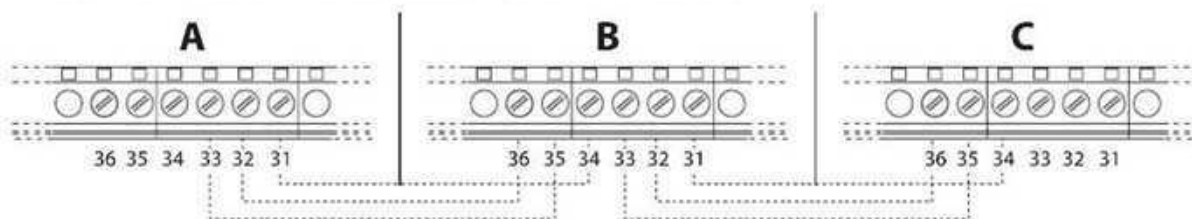

fig. 56- Cascade connection
1. Connect the modules as shown in fig. 56 (example with 3 modules)
If this does not occur, disconnect the power and check the wiring in fig. 56.